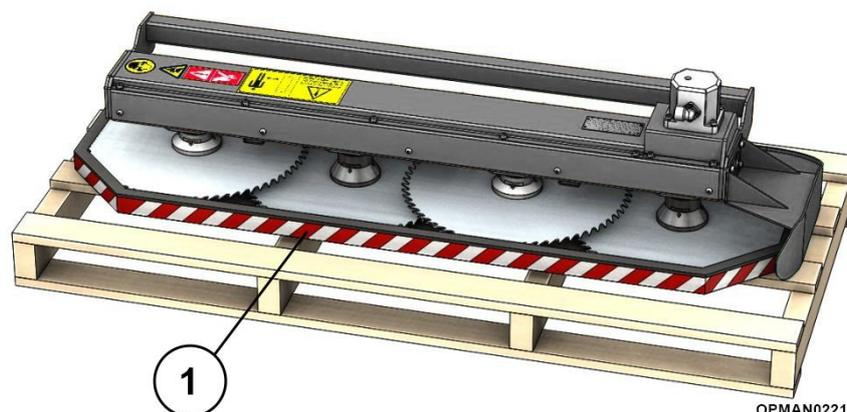

Figure 20
- 11.3.1.2 The blade protective housing (1) must be in position; see Figure 20.